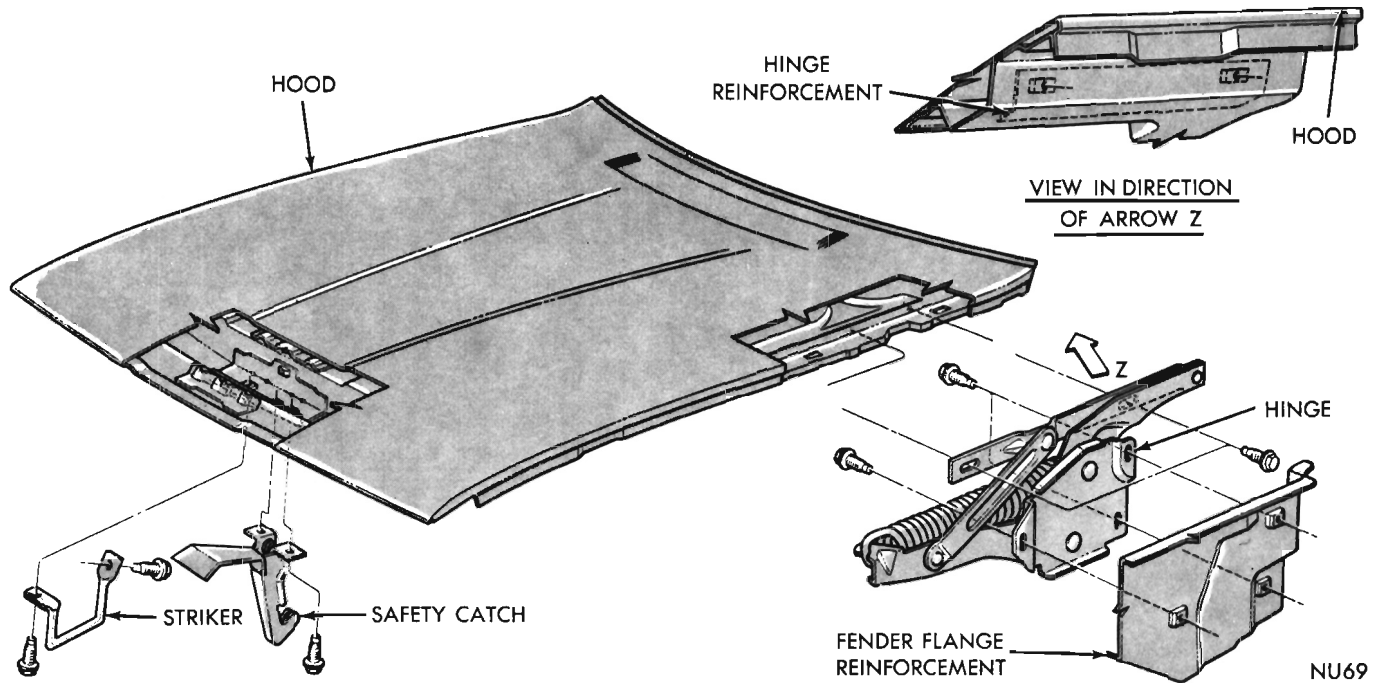

Fig. 7 - Hood Application
- (1) Place a protective covering over cowl and fender area.
- (2) Mark outline of hinges on hood to aid in installation.
- (3) With an assistant, remove hinge-to-hood bolts (Fig. 7) and remove hood assembly. **Use care not to permit hood to slide rearward and damage painted surfaces of the cowl and fender areas.**
- (1) With an assistant, position hood on hinges and install bolts. Do not tighten.
- (2) Align scribe markings on hood with hinge and tighten screws to hold in position.
- (3) Close hood and inspect alignment.
- (4) Adjust alignment (Figs. 7) tighten bolts and remove protective coverings.